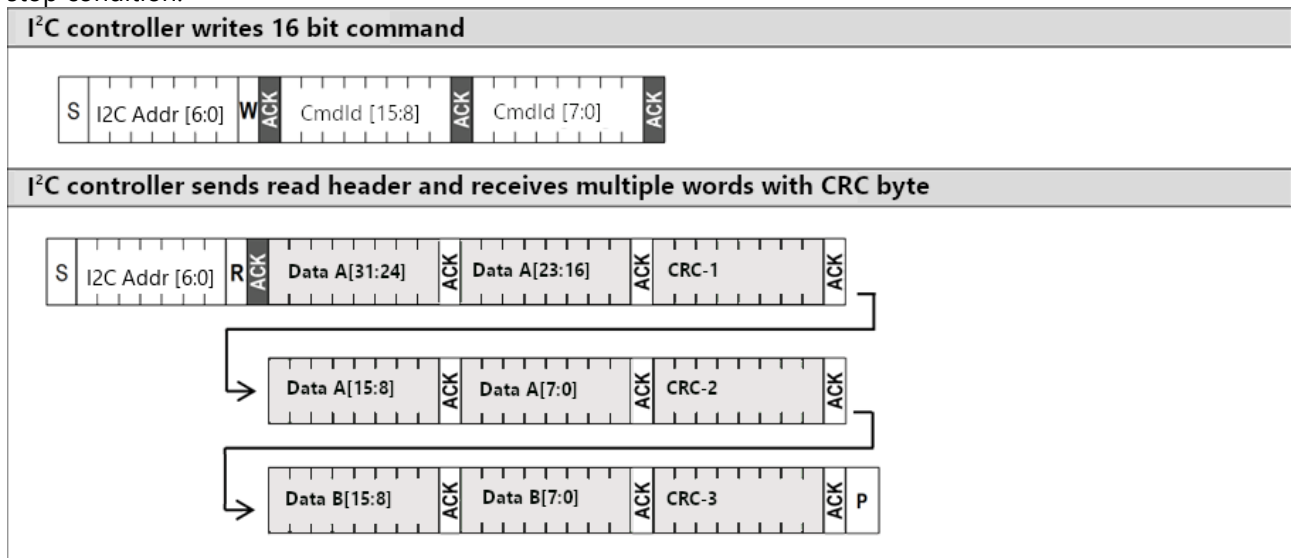

Figure 4. Example of I2C transfer.
The write, read and combined data transfer formats are visualized in **Figure 4**. Data and commands are transferred in multiples of 16-bit words, with the most significant byte (MSB) transmitted first. All transfers must begin with a start condition (S) and terminate with a stop condition (P). A sensor is addressed by sending its 7-bit I2C address, followed by an eighth data direction bit denoting the communication direction (W/R): "zero" indicates transmission to the target (i.e., "WRITE") and "one" indicates a request for data (i.e., "READ"). Data words (DATA1...X) are succeeded by an 8-bit checksum (cyclic redundancy check CRC-8, see **Section 3.4**). Command words (CMD) contain a 3-bit CRC. In the write direction, the checksum must be transmitted. In read direction, the master may abort transmission after any data byte by sending a not acknowledge (NACK) and a